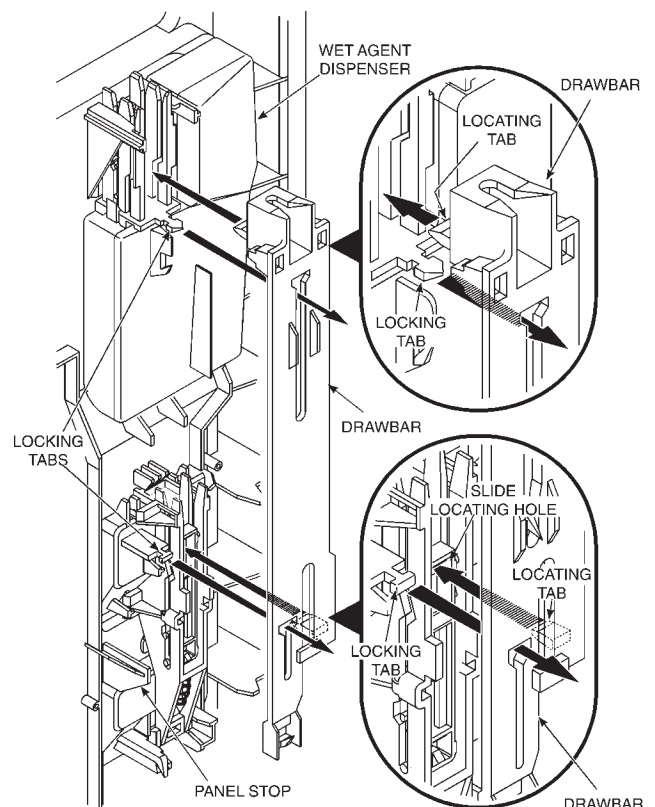

Fig. 2-16
2. Grasp the lower edge of the drawbar and pull it away from the panel stop. Slide the drawbar down until the draw bar holes align with the locking tabs, then remove the drawbar. Note how the locating tabs behind the drawbar align with their respective locating holes in the drawbar. (Fig. 2-16)